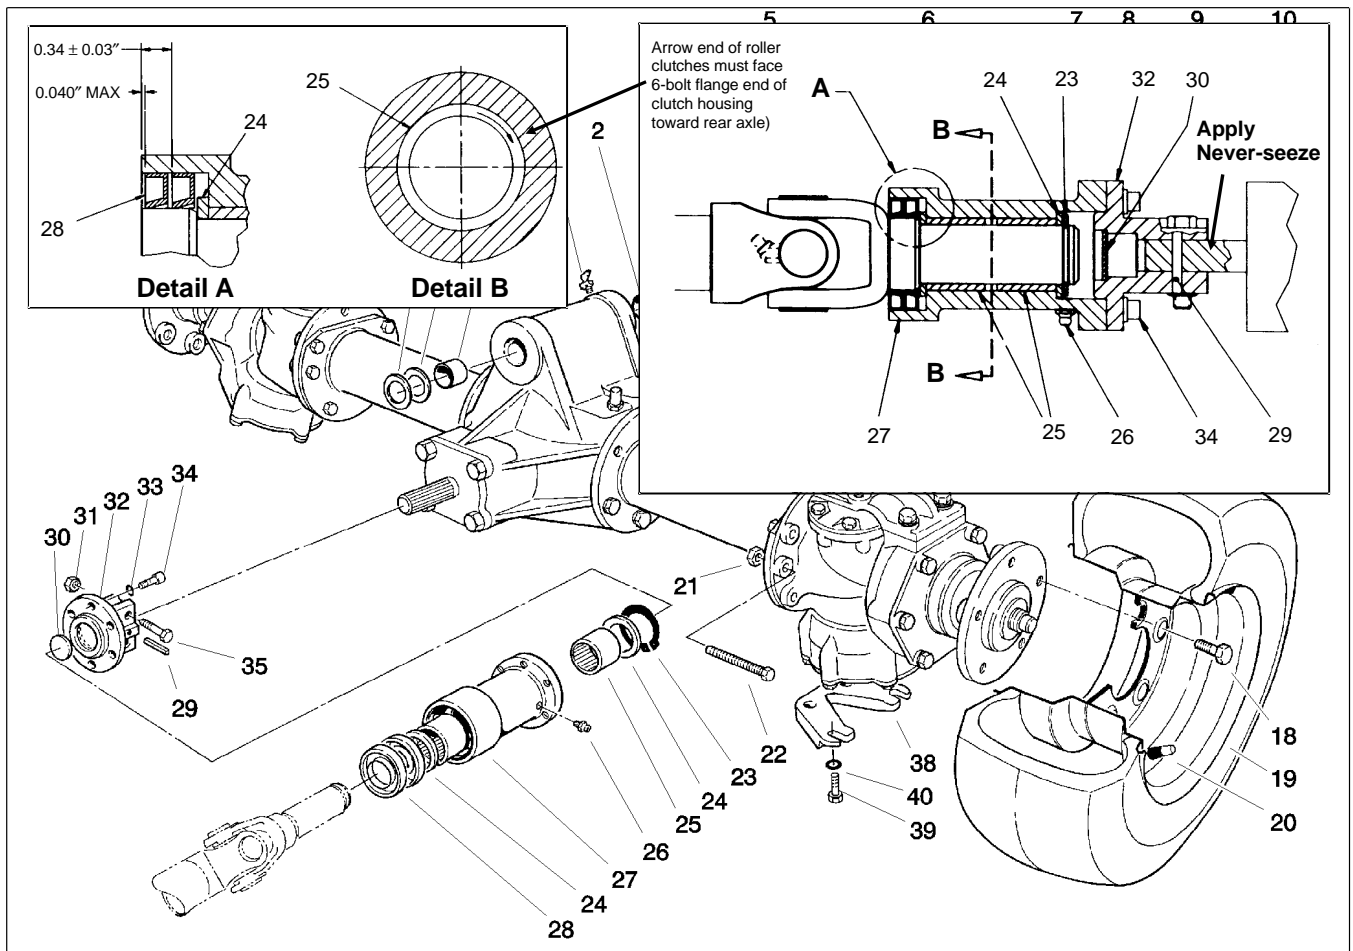

Figure 8
2. Use a hammer and punch to drive roll pin (Fig. 8, Item 29) out of axle coupling (Item 32) and rear axle shaft. Loosen two (2) capscrews and locknuts securing coupling to axle shaft. Slide coupling off of shaft.
3. Remove six (6) socket head capscrews and lockwashers securing drive shaft yoke flange to flange on front axle differential (not shown).